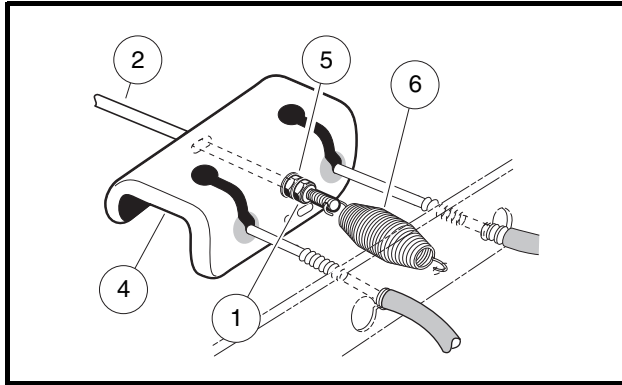

Figure 6-27 Rear Equalizer Adjustment
- 1.1. To provide slack in the brake cables, loosen the equalizer retaining nuts (1 and 5) on the equalizer rod (2) (**Figure 6-27, Page 6-13**).
- 2.2. Tighten the jam nut (5) on the rear equalizer rod (2) clockwise to 35 in-lb (4 N·m) (**Figure 6-27, Page 6-13**).
- 2.5. Hold the jam nut (5) on the rear equalizer rod (2) in place with a wrench and tighten the lock nut (1) to 13 ft-lb (17.6 N·m) (**Figure 6-27, Page 6-13**). **See following CAUTION.**
- If the brake pedal return spring (6) was disconnected while equalizing the brake cables, be sure to reconnect it before proceeding (**Figure 6-27, Page 6-13**).
2. Release park brake and loosen equalizer retaining nuts (1 and 5) on equalizer rod (2) to slightly loosen brake cable (**Figure 6-27, Page 6-13**).